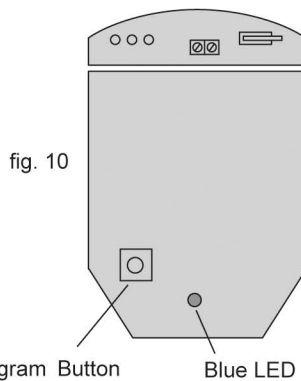

fig. 10
- The user can individually program a number of configurable settings as illustrated in the programming chart. Factory settings are shown as shaded boxes. Changes to the existing settings can easily be made. To reset the factory settings simply remove power from the detector, press and hold the program button (fig. 10) while temporarily applying power to the detector either before installation, with a 9-Volt battery, or by applying 12 Volts to the unit on site.
- 1) Press the program button as shown in fig. 10 for the number of the Option to be changed i.e. once for range, twice for pulse count, three times for LED.